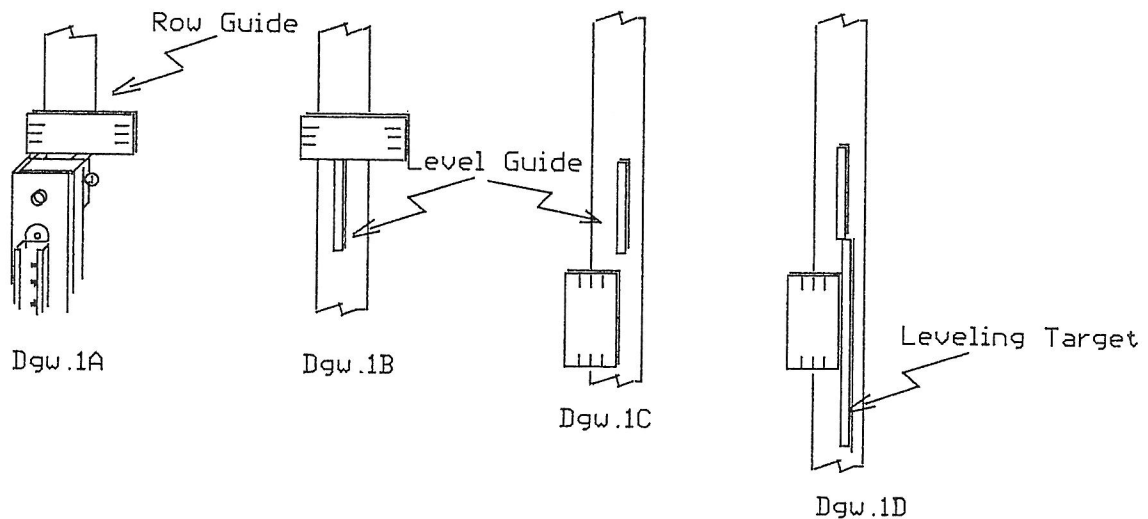
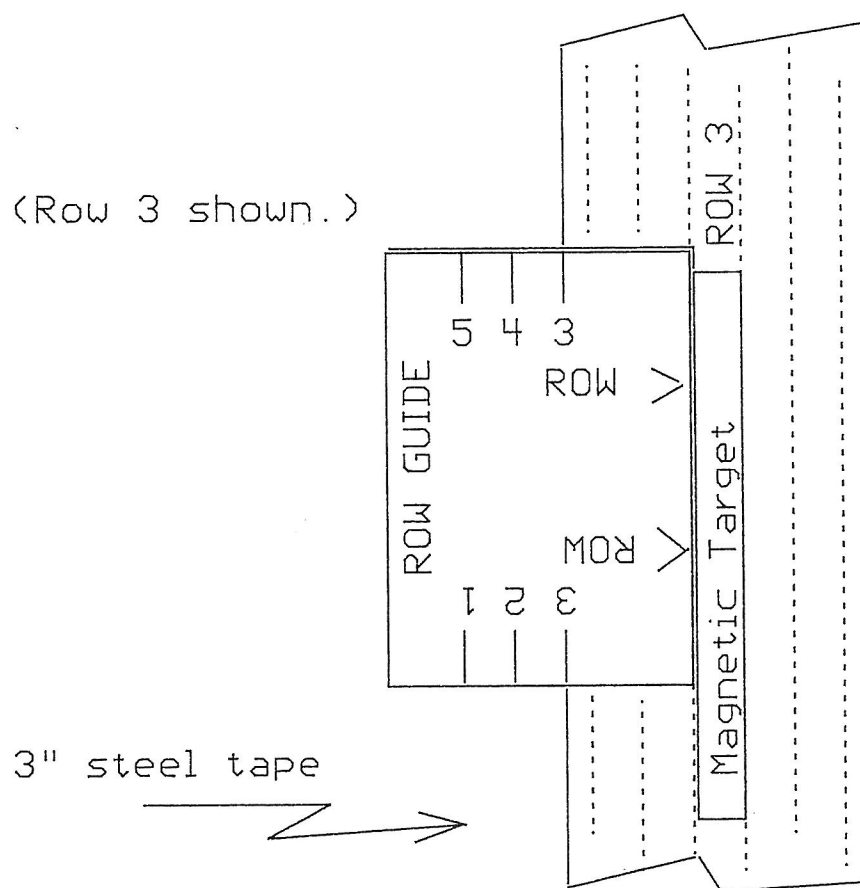

Figure 4. Leveling Target
Figure 5. Row Guide for 3" Tape
5. Set elevator level at the floor and install the Leveling Target. (Figures 4, 5 & 6, Guide To Leveling Target)
- 7.\* Down Slowdown Target. In the down slowdown row, measure from the Leveling Target, up to the slowdown distance required for your job. (Figure 5, Row Guide)
- 8.\* Up Slowdown Target. In the up slowdown row, measure from the Leveling Target, down to the slowdown distance required for your job. (Figure 5, Row Guide)
1. With elevator level at floor, place Row Guide across top of leveling unit as shown in figure 4, Dwg 1a.
2. Move the elevator down and place the Level Guide below the Row Guide, figure 4, Dwg 1b.
3. Use the Row Guide to locate the leveling row for your job. See figure 4, Dwg 1c and figure 5.
4. Peel the white backing from the leveling target. Position the adhesive side of this target to the steel tape, in the leveling row. Figure 4, Dwg 1d.
Align Row Guide on steel tape according to the row desired (see figure 5). Remove protective backing from target and place target adjacent to the Row Guide.